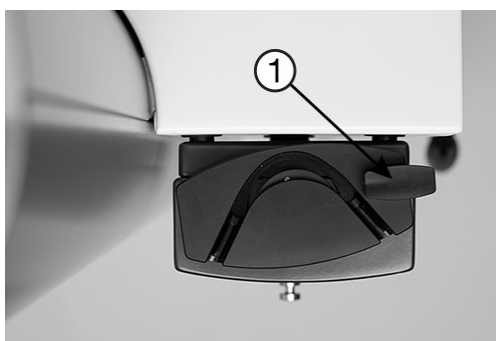

Figure 30 – Releasing the pump head
Release the pump head by turning the handle (1) counter-clockwise – see Figure 30.